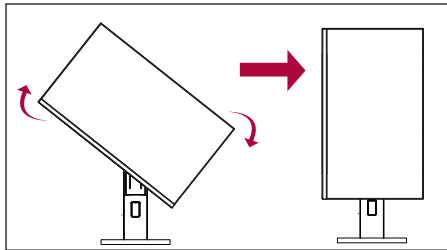

Figure3
3. Rotate the screen 90 degrees clockwise as shown in Figure 3.